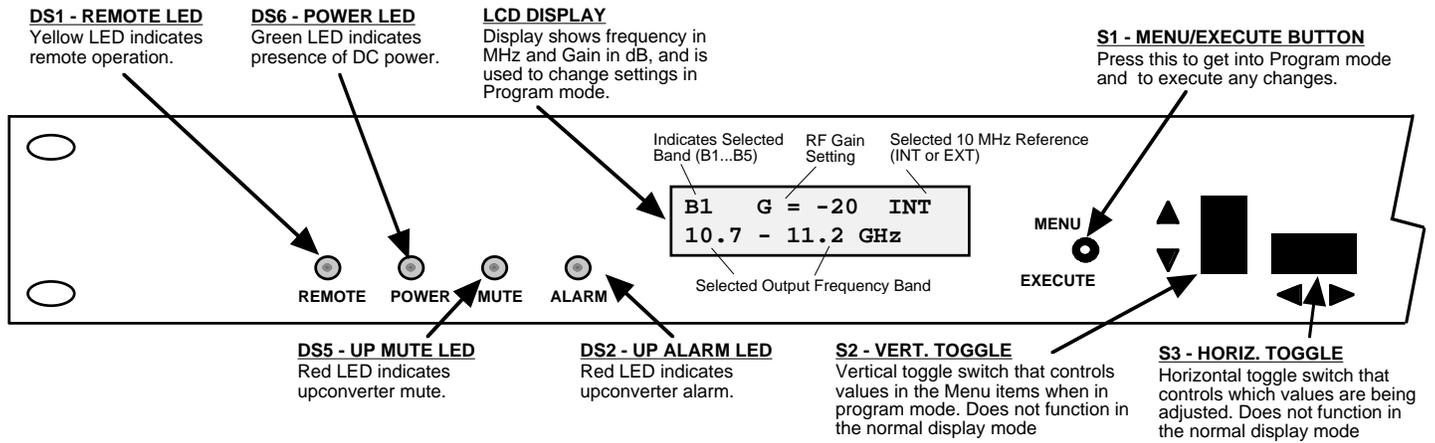

FIGURE 2.3 3115-51 Front Panel Controls and Indicators
2.3 Front Panel Controls and Indicators - Figure 2.3 shows the front panel controls and indicators.
4. Be sure DS6 (green, DC Power) is on and DS2 (red, Alarm) is off (Figure 2.3).